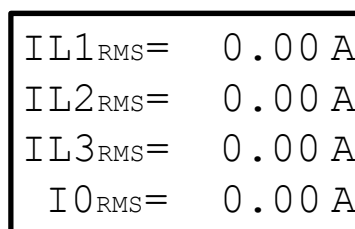

Figure 5.16: Measurements menu
- After 5 s display changes to Measurements menu (Figure 5.16).